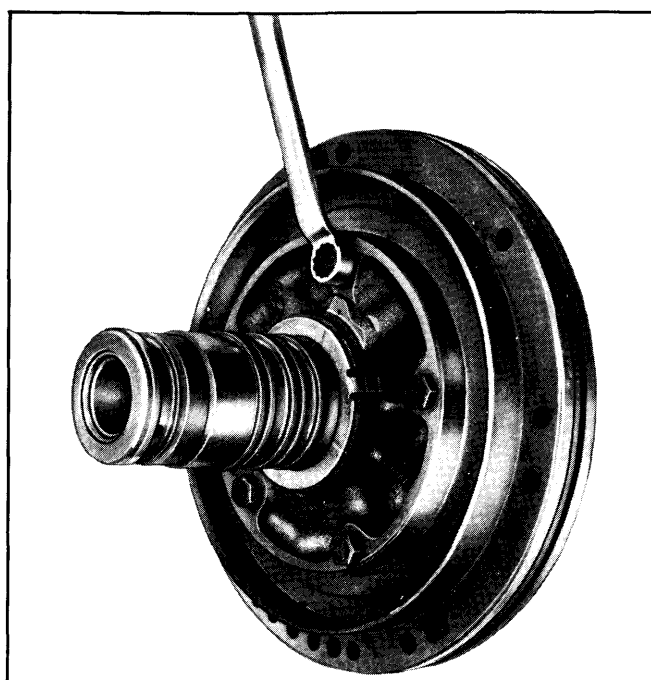

Fig. 7-60—Removing Pump Cover to Pump Body Bolts
2. Remove pump cover to body attaching bolts 5/16 X 18-1 1/2. (Fig. 7-60)